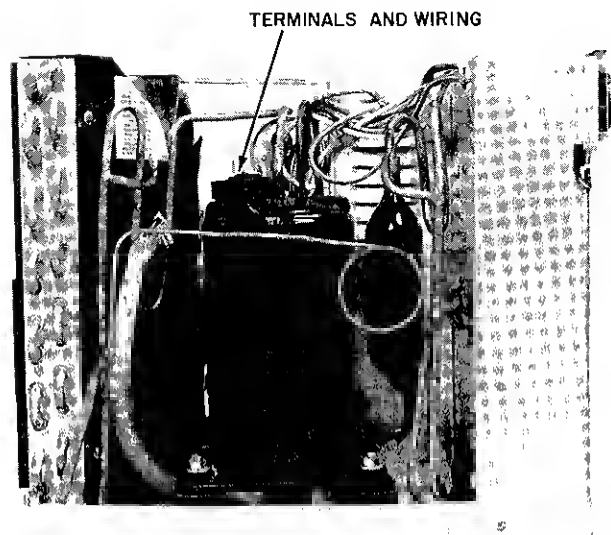

**Fig 20 — Evaporator Scroll**
- i Remove screw which holds the evaporator scroll to the partition. See Fig. 20
- 17 **Exhaust Door** — See Exhaust Door in Fig 20
- 18 **Vent Door** — See Vent Door in Fig 20
- 19 **Vent and Exhaust Lever** — See Vent and Exhaust Lever in Fig 20